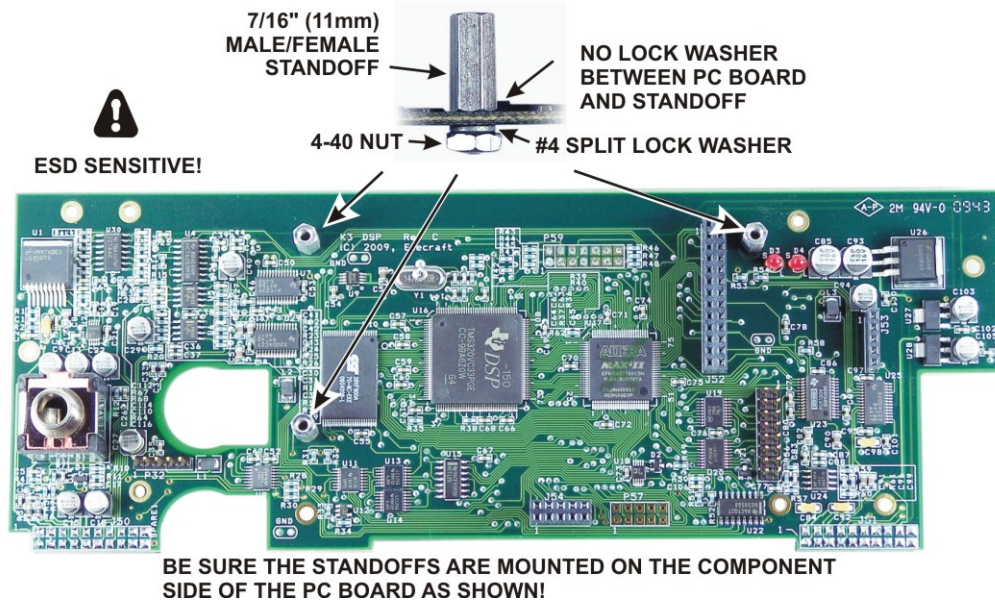

Figure 52. Installing Standoffs on the Main DSP Board.
□ Mount the three 7/16" (11mm) male/female standoffs on the component side of the *main* DSP board as shown in Figure 52 using 4-40 nuts and #4 split lock washers. Be sure that: